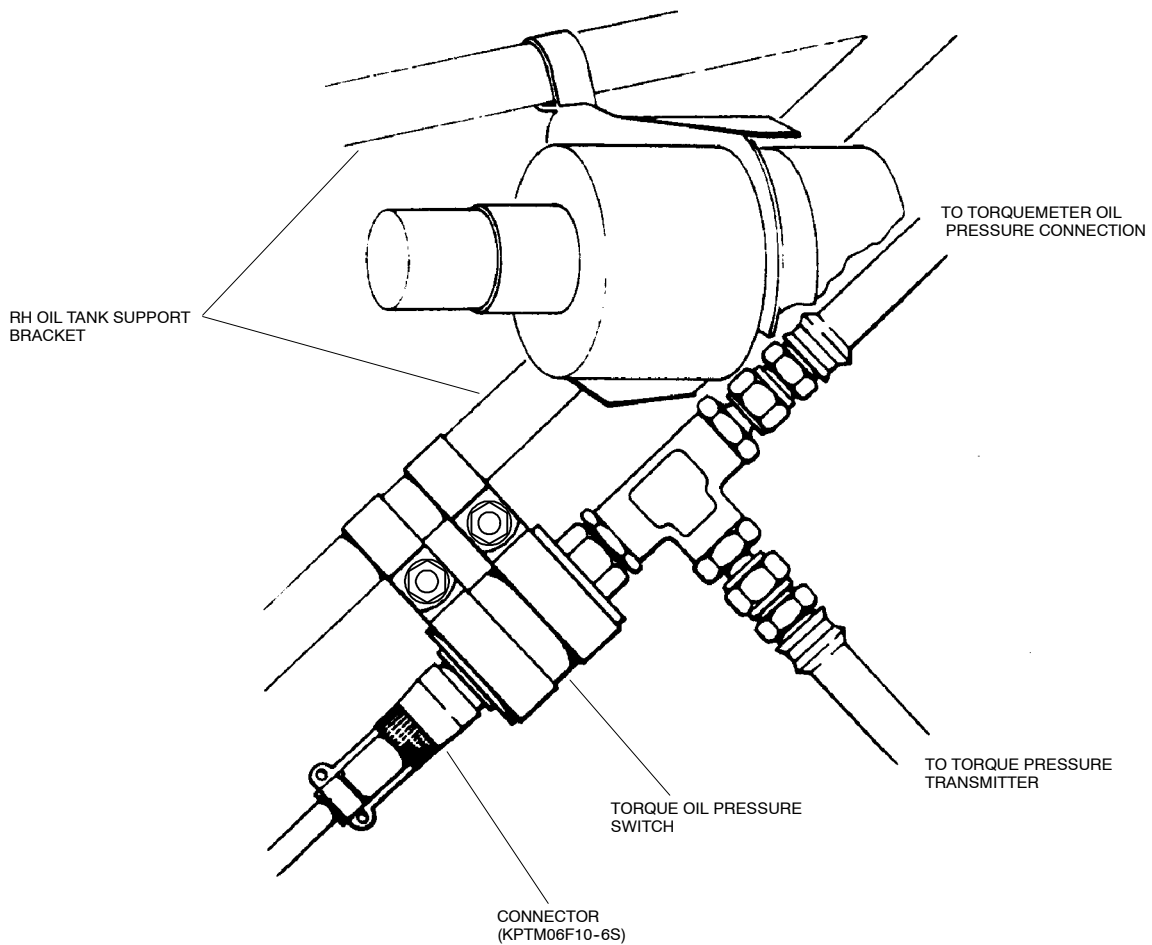

Figure 3 Mounting of Torque Oil Pressure Switch
- (2) Locate Torque Oil Pressure Switch (Ref Fig 3), and remove electrical connector.